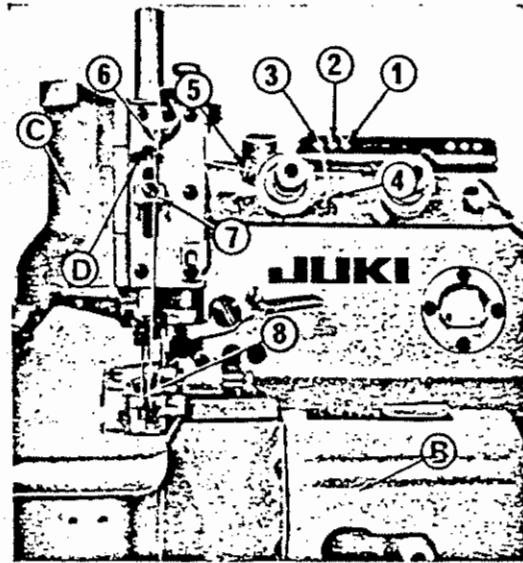

Fig. 8
6. How to thread the machine (Fig. 8)
(Please see Fig. 8)